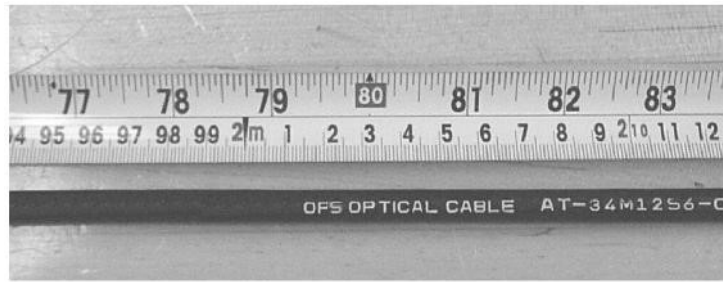

Figure 1 - Measure and mark the cable.
4.1 Consult the splice closure instructions for the required length of cable sheath that must be removed. Measure and mark the cable with Sharpie or tape at the appropriate stripping length (Figure 1).